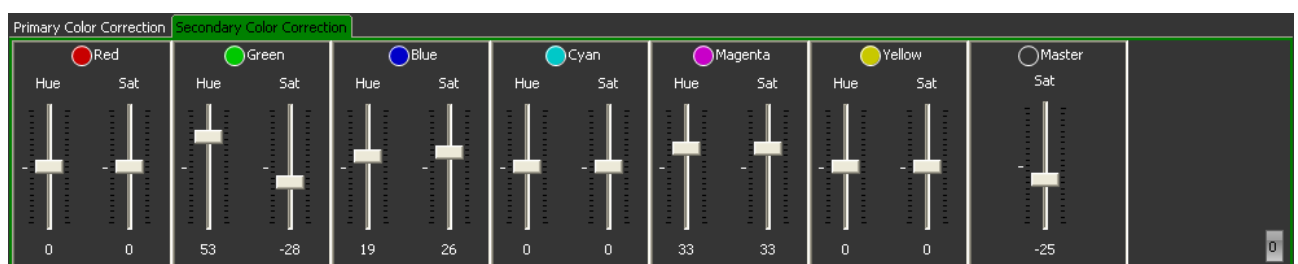

Fig. 9: Secondary color correction
- The secondary colour correction manipulates the colour saturation of six colour sectors independently (Fig. 9).